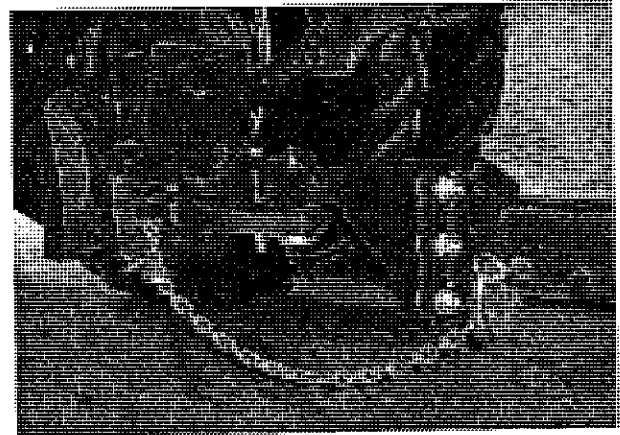

Figure 5. Safety Chain Installed.
10. Attach the safety chain to the harvester hitch by inserting the large chain eyelet through the chain bracket on the tongue (from the back side). Route all chain links through the large chain link and pull tight. Route chain through the intermediate chain support and secure the chain to the tractor drawbar carrier. Be certain to allow enough slack in the chain for full articulation of tractor and harvester without binding. See Figure 5, page 15 in the **Preparing for Operation** section.